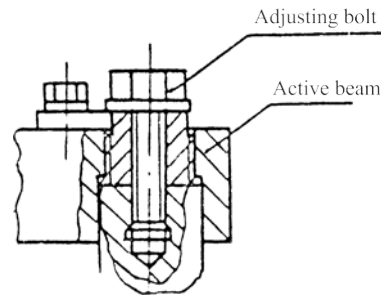

Fig.10-2
(3) Make use of the set bolt of the lift cylinder cap (See Fig.10-2) to eliminate the difference in height between the right and left cylinder caps.